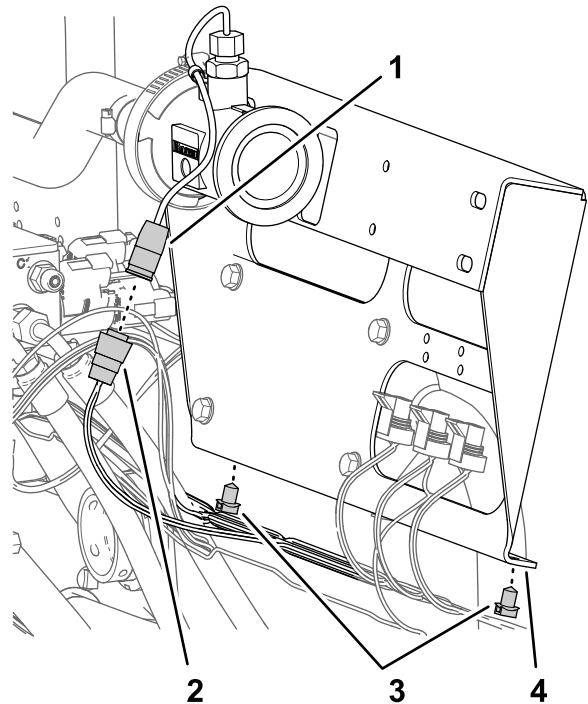

Figure 72
- Disconnect the 3-socket connector of the machine wire harness labeled FLOW METER from the 3-pin connector of the flow meter (Figure 72).
- Remove the 2 push-in fasteners of the machine wire harness from the bottom flange of the section-valve bracket (Figure 72).